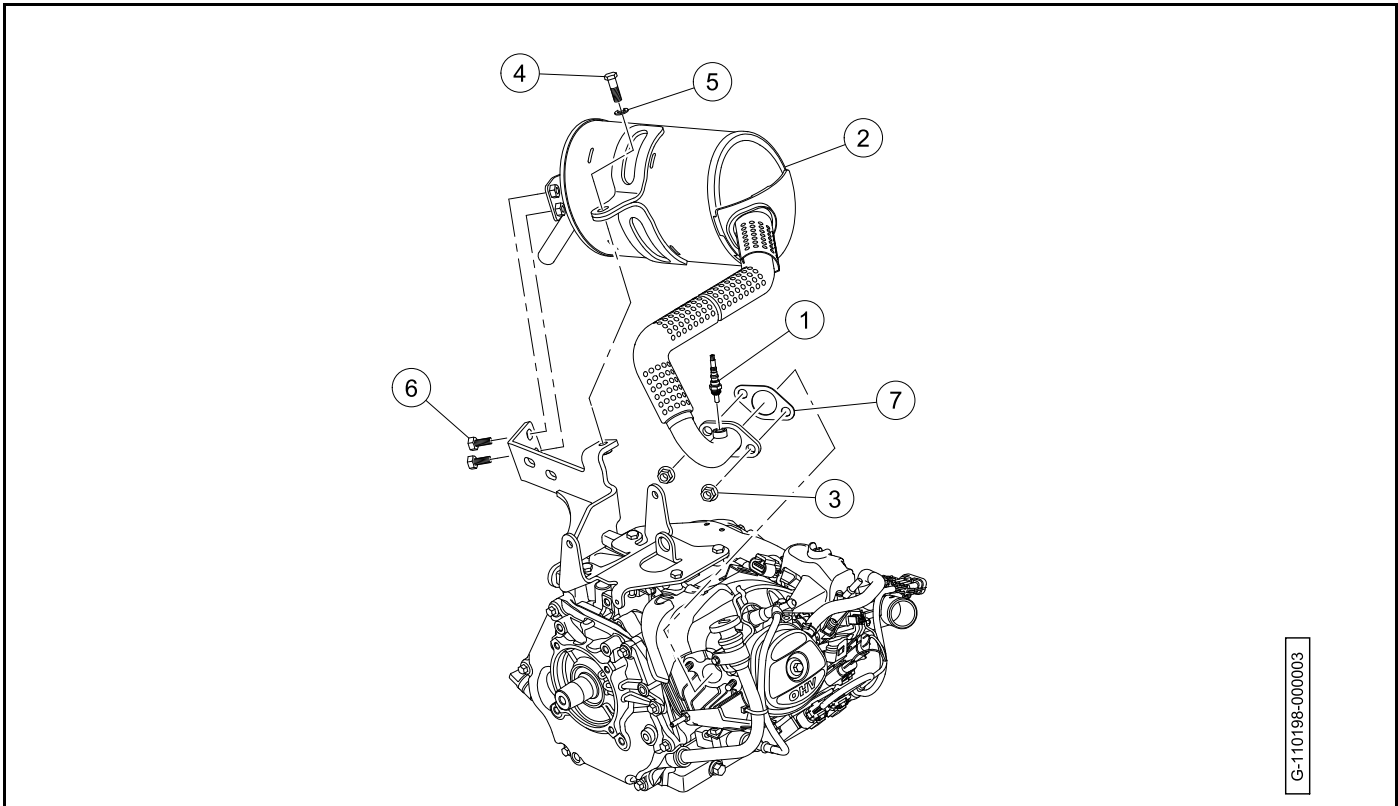

Figure 23-2 Muffler Installation
1. Install the new exhaust gasket (7) on the exhaust port studs (Figure 23-2, Page 23-2).